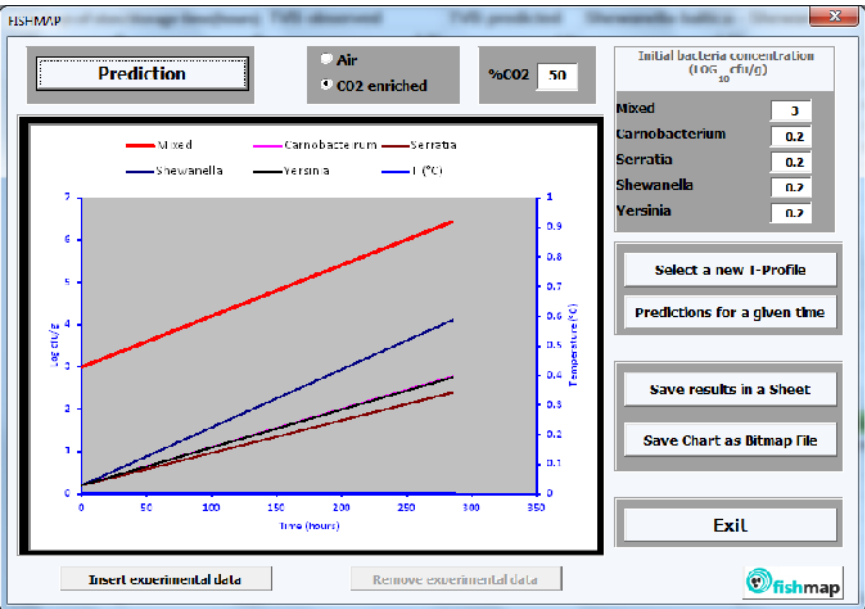

Figure 2
Step 5. Click on the prediction button, FISHMAP will show the growth prediction graph in the same graph (Figure 2):